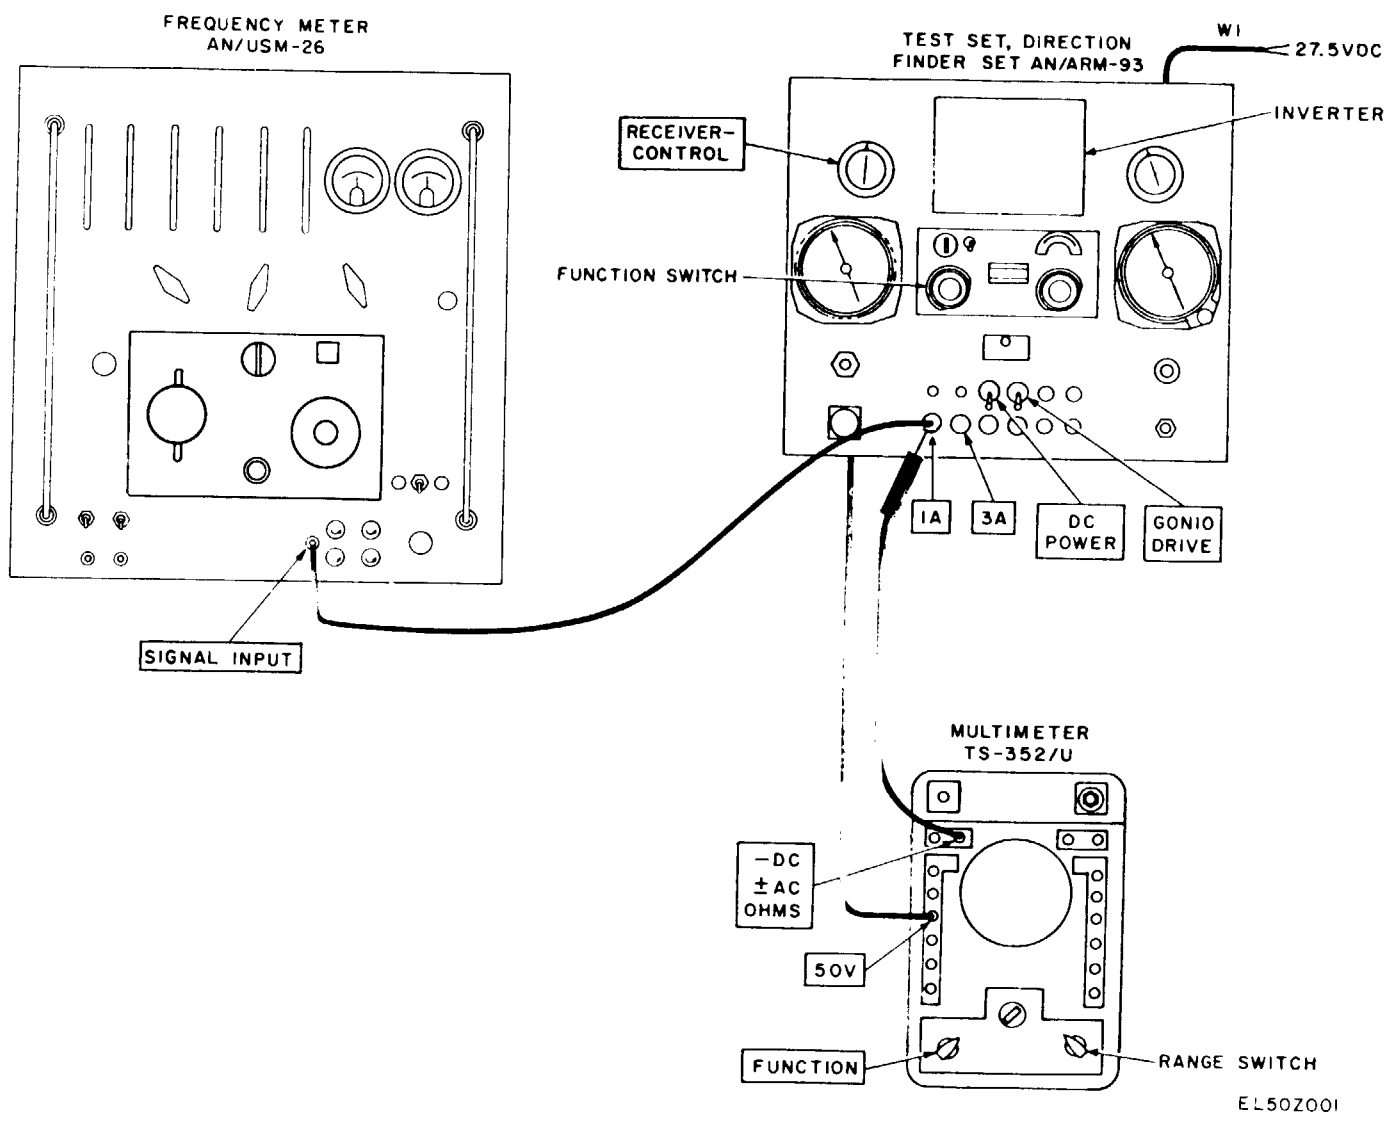

Figure 4-9. Inverter test.
- (1) Test Set, Direction Finder Set AN/ARM-93.
- (2) Multimeter TS-352/U.
- (3) Frequency Meter, AN/USM-26.
b. Test Connections and Conditions. Connect the test equipment as shown in figure 4-9. The inverter can be inserted directly into the AN/ARM-93 or connected by means of cable W4 (part of AN/ARM-93).